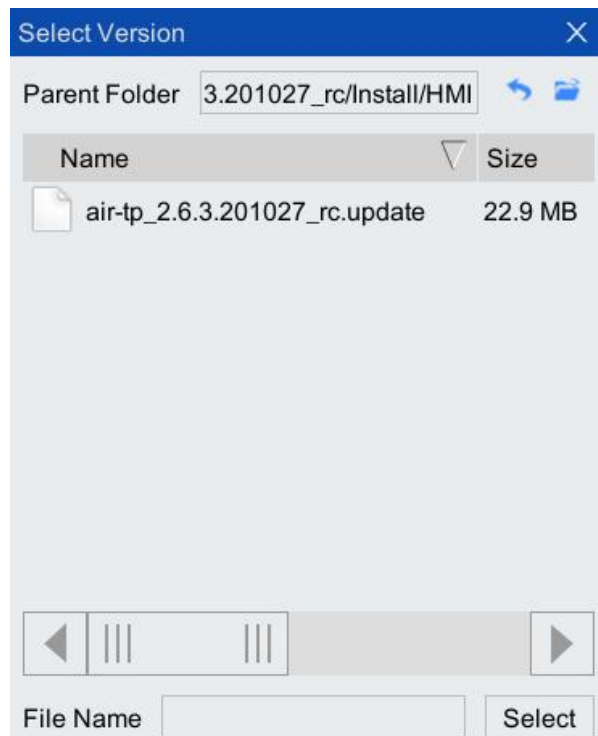
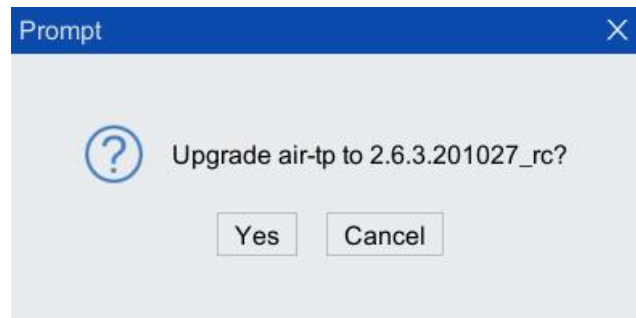
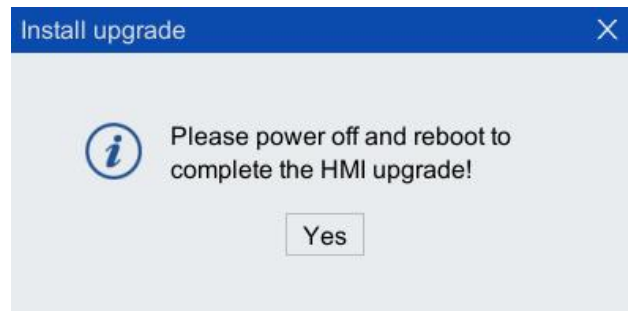

Figure 8-37 Path where HMI upgrade file is located
Figure 8-38 "Upgrade HMI to the corresponding version" dialog box
Figure 8-39 "Power off and restart to complete HMI upgrade" dialog box
Step2. As shown in Figure 8-37 switch the path to the path where the HMI upgrade file is located, select the HMI upgrade file, click <Select> button to pop up "Upgrade to \*\*\*\*\*?" dialog box in Figure 8-38, and click <Yes> button. When "Please power off and reboot to complete the HMI upgrade!" dialog box in Figure 8-39 pops up, click <Yes> button to restart the control cabinet to complete the HMI upgrade.